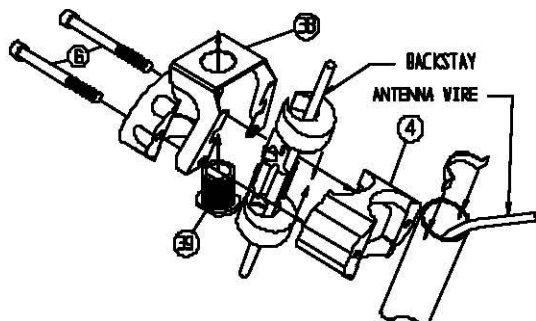
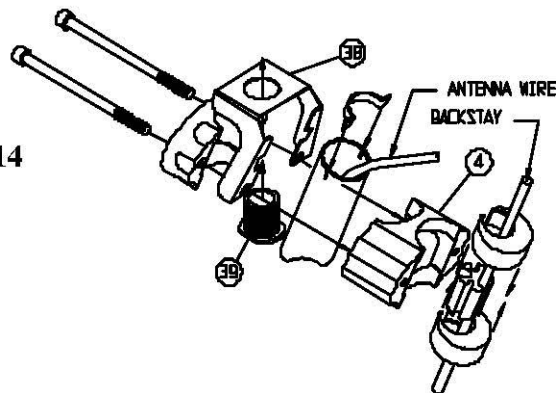

FIGURE 13
FIGURE 14
- The SAK2 Bracket is designed to be installed astern of the backstay. Therefore the Pivot Base Clamping bolts (6) must be removed from the Pivot Base End Cap (3). The SAK2 Bracket is to be inserted between the castings and line up with the bolt holes of the Pivot Base End Cap (3) and the Pivot Base Mid-spacer (4). (Figure 13) or (Figure 14).